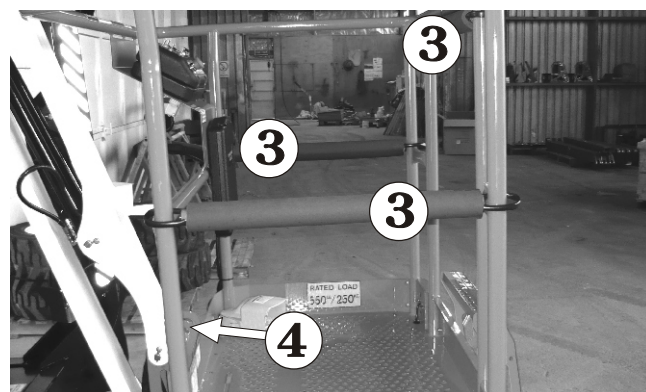

Figure 10.13
- Enter the platform, close the gravity gate ③, and attach the lanyard of your safety harness to one (1) of the anchor points ④ (see Figure 10.13).